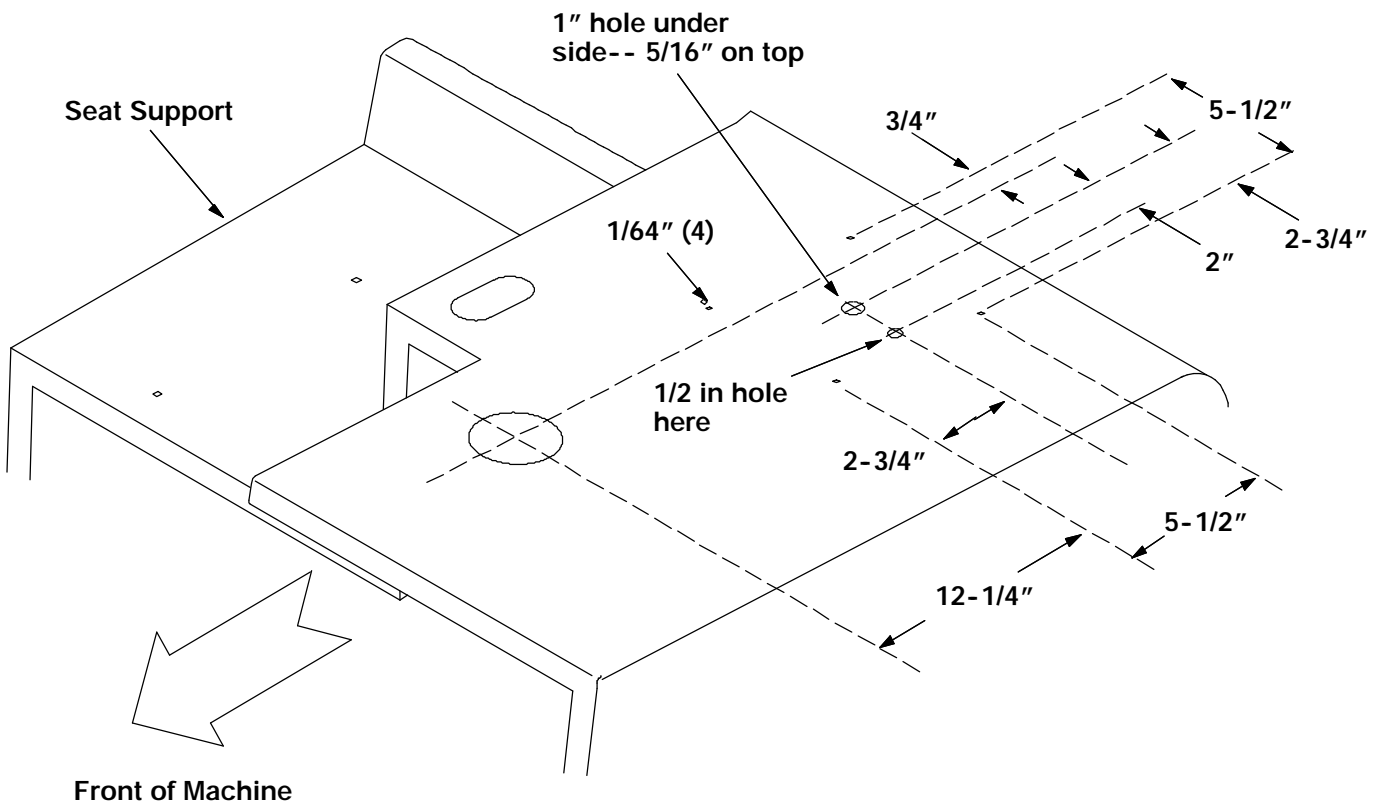

FIG. 1 - Dimensions of Holes to be Drilled for Installation of Revolving Light
(Refer to FIG. 1, 2, and 3)
6. Drill mount holes in the seat support according to dimensions in FIG. 1. (Refer to FIG. 1)
7. Route wire harness (3) through 1/2" hole in seat support . (Refer to FIG. 1 and 2)